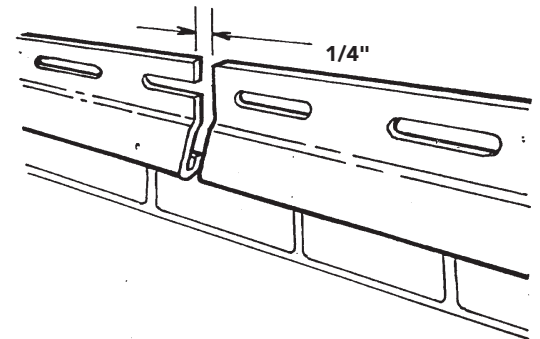

Figure 27
- Keep the ends of starter strips approximately 1/4" (6.4mm) apart to allow for expansion (Figure 27).